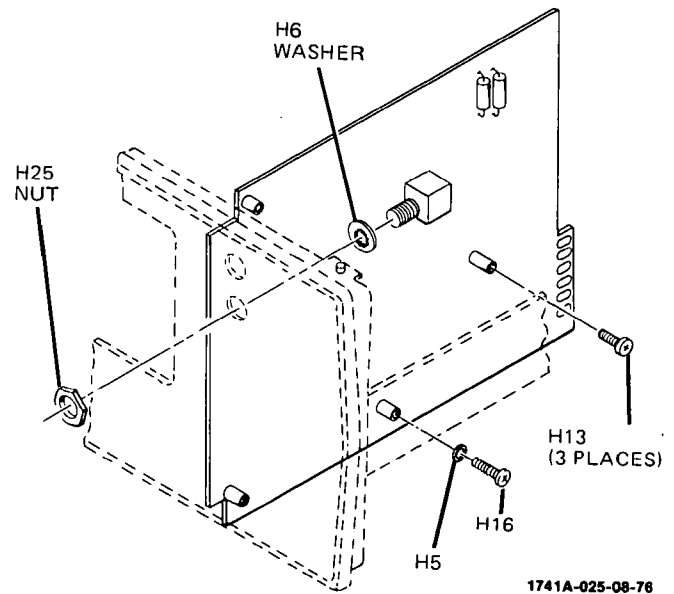

Figure 8-7. Location of A7 Attaching Screws
- Disconnect wires (93), (1), (6), and (97) from back of A7.
- Disconnect wire (7) from component side of A7.
- Remove four screws holding A7 to sheet metal (figure 8-7).